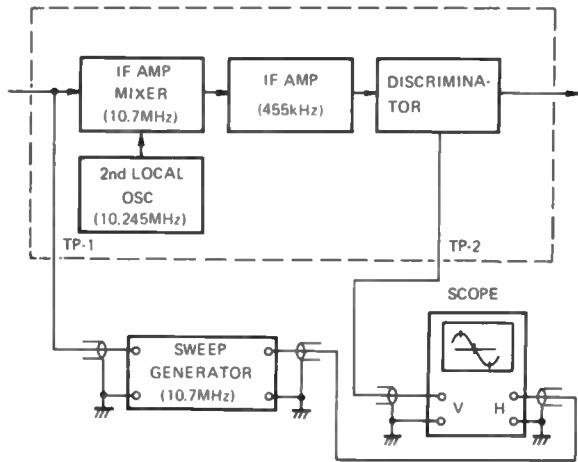

Figure 2. IF SECTION ALIGNMENT BLOCK DIAGRAM
- Step 1: Connect the instruments as shown in Figure 2.